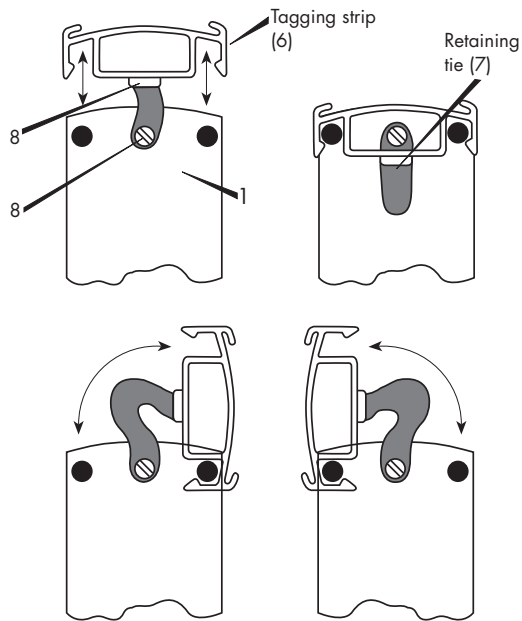

Figure 4.8: Attaching and swivelling a tagging-strip
- e) Clip the tag strip holder (6) onto the mounting posts (1) by pushing it downwards (Figure 4.8).